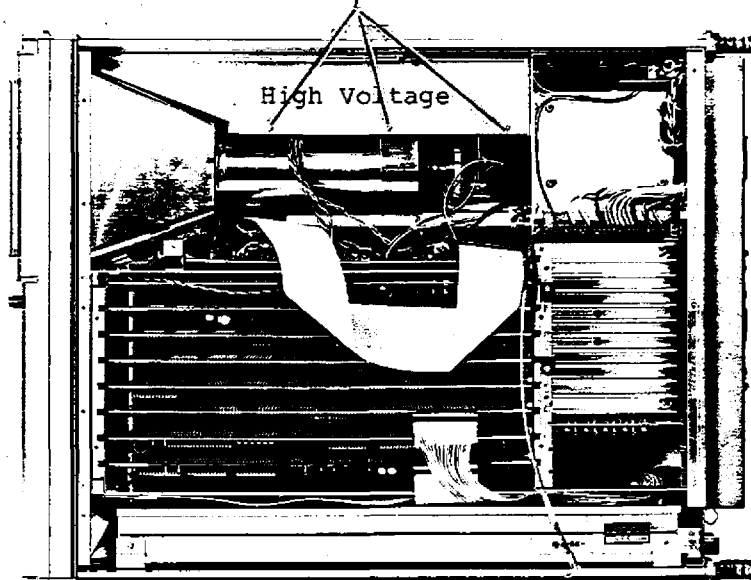
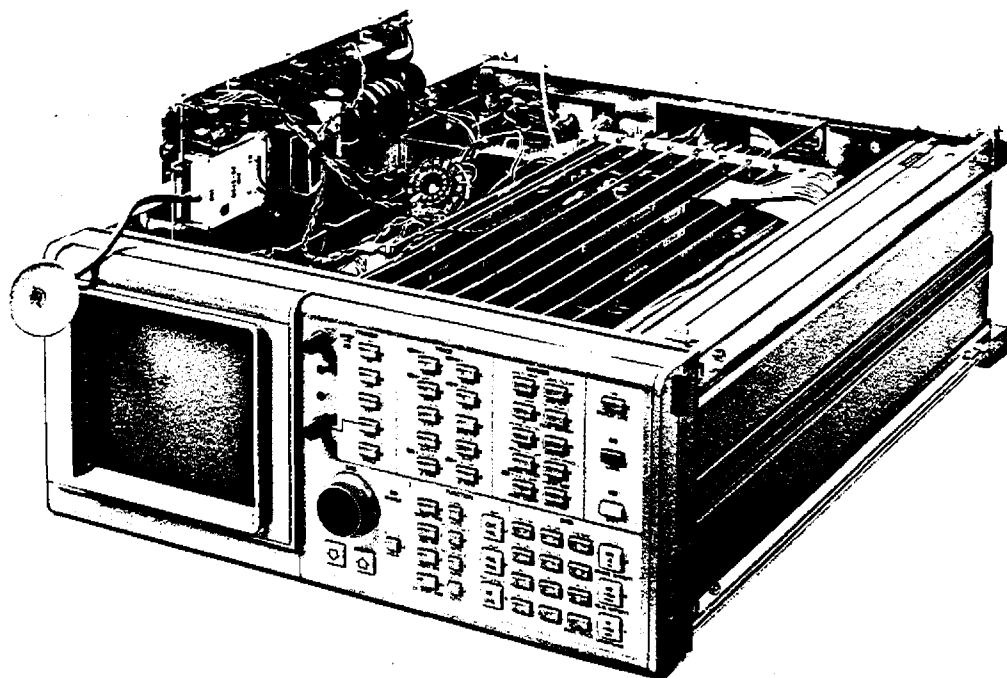

Fig. 13-5 High voltage
Fig. 13-6 High voltage re-mounting
(11) High Voltage Block (BLC-010204)
Remove the phase block as directed in step (8). Remove the rear foot and side plates from the Display Section referring to the assembly illustration, then remove the six screws retaining the high-voltage block cover shown in Figures 13-5 and 13-3. Next, remove the six board retention screws shown in Figure 13-3, then remove the board. Next, using the screw, connect the High voltage block to the mainframe as shown in Figure 13-6. When troubleshooting the high-voltage block, exercise caution to prevent electrical shock.
(12) CRT